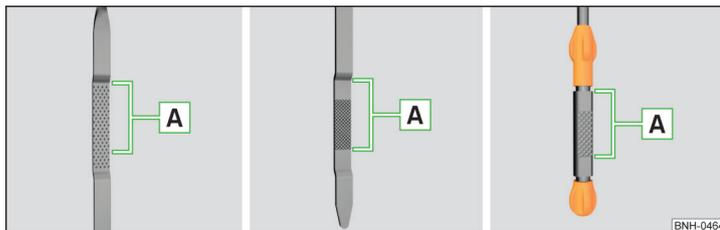

Fig. 120 Principle sketch: Dipstick
Dipstick » Fig. 120
- The oil level must never be above the **A** range » Fig. 120 – there is a risk of damaging the exhaust system!